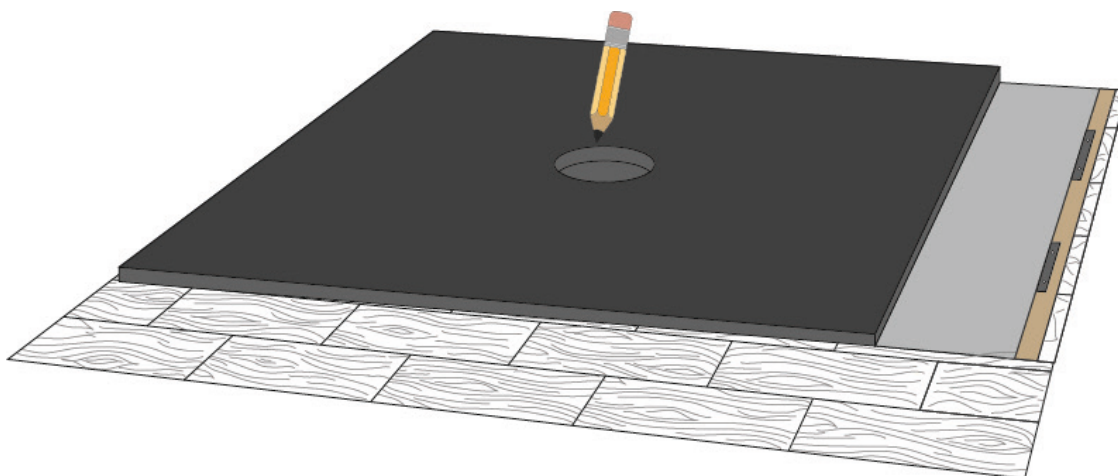

Fig. 10a
2. Dry fix 50mm waste pipe with connector to the Orbry Round Base Drain, ensuring the side marked 'UP DN50 2' is positioned at the top, and check it lines up with the hole cut in plywood drain section. Remove waste pipe and clean with solvent waste pipe cleaner. Solvent weld the drain and pipe (Fig. 10a). Once the solvent weld has set pour water down the drain to check that the waste is not blocked and that there are no leaks (Fig. 10b).